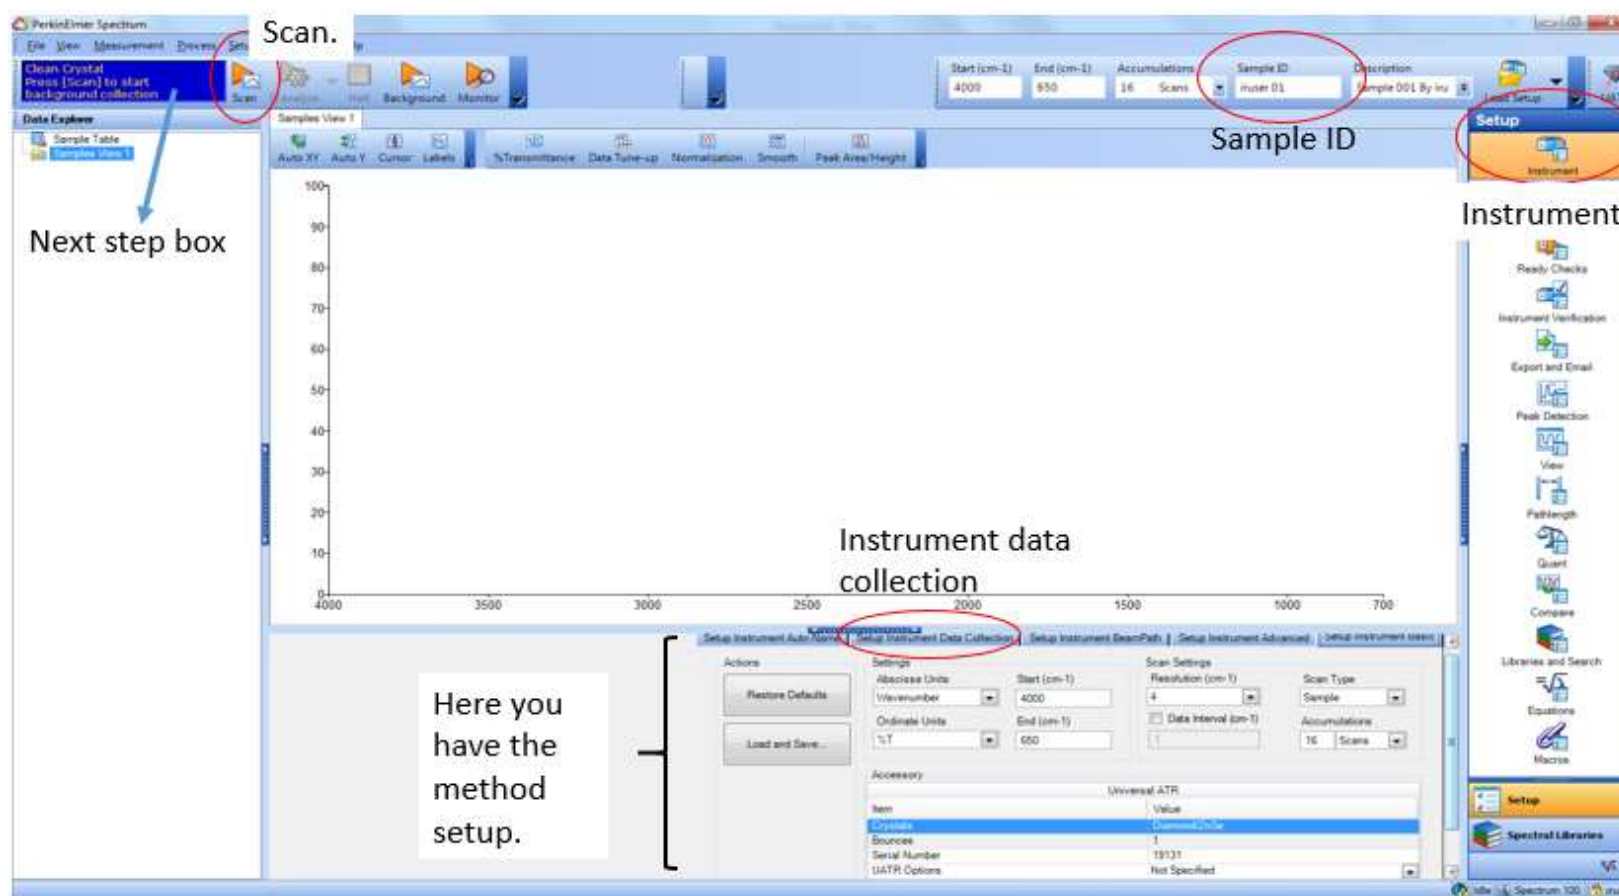

Figure 2. Main view of Spectrum software.
- In the Spectrum software you will see the last user's set up. First of all, you need to go to the top right of the software and select **Set up > Instrument** (Figure 2).
**TROUBLESHOOTING:** If you do not see <Sample ID> as a menu option (top part of the software) you will need to change the <Instrument Data Collection path> to C:\pel data\spectra\ Student data\ your supervisor's folder\your own folder and to close the software and log back in (Figure 2).
- Before modifying the method setup options, you have to **check that the right default setup** is in place for the following tabs (Figure 2, method setup): Instrument data collection. Instrument BeamPath, instrument Advanced parameters and Instrument Basic. Please see the APPENDIX for the right default setup.
- There is a **next step blue box** on the instrument and on the software (see Figure 2). It does remember you what you need to do.